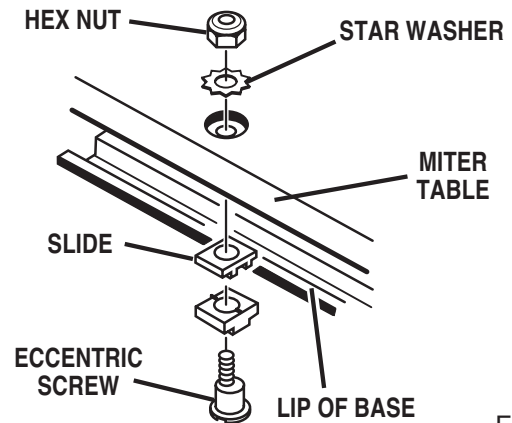

Fig. 45
- There are four slides located under the sliding miter table. These slides let the miter table move on the base. Three slides are mounted on eccentric screws that can be adjusted by loosening the hex nuts on top of the miter table. See Figure 45.
- Loosen the rear hex nuts (K) on top of sliding miter table for this adjustment procedure.